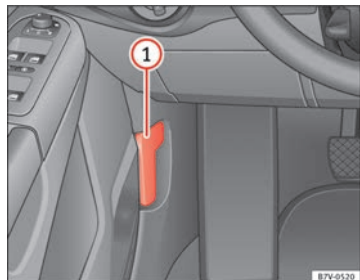

Fig. 169 In the footwell on the driver side: Lever for unlocking the bonnet
- Before opening the bonnet, make sure that the windscreen wiper arms are in place against the windscreen ⇒ ①.
- Pull the release lever ⇒ Fig. 169 in the direction of the arrow. The bonnet is released from the lock carrier by a spring mechanism ⇒ ⚠.